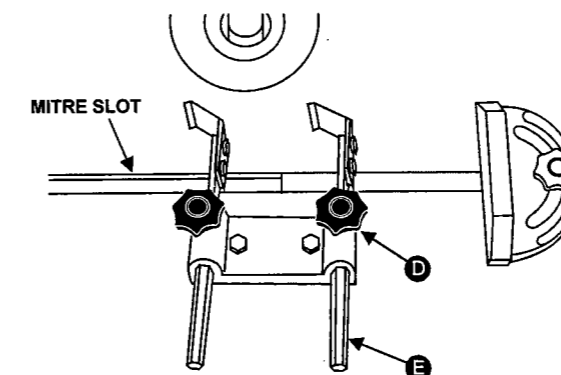

FIGURE 15
3. On the auxiliary support assembly, Figure 15, loosen the locking knob (D), slide the spring guide plates (E) to put moderate pressure on the workpiece, and tighten the locking knob.